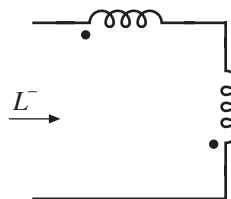

Figure 7 Anti-series connection of the two windings, for Question 12
12. The two windings are connected in anti-series as illustrated in Fig. 7